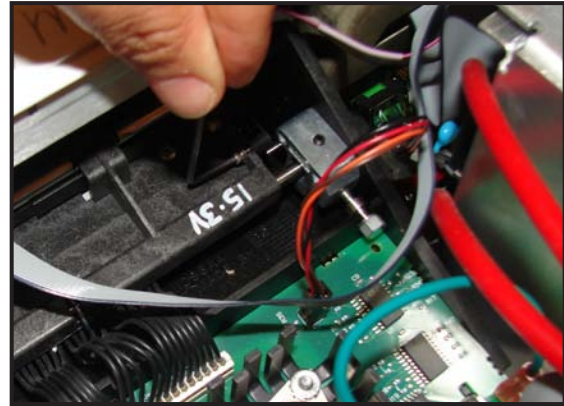

Figure 6-52
- b. Using a small hex key to remove the two socket-head screws which attach the black sensor housing to the angle bracket (See Figure 6-52).